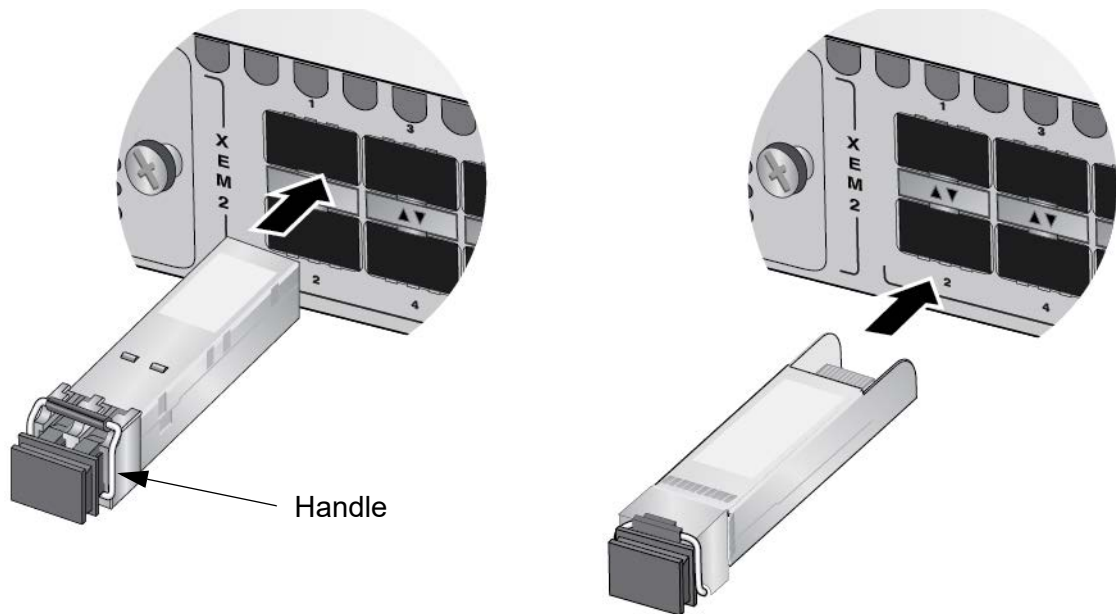

Figure 132. Installing an SFP or SFP+ Transceiver
- ❑ Base ports 1 to 24 and AT-XEM2-8XSTm and AT-XEM2-12XS Line Cards - To install a transceiver in an odd numbered port, position it with its handle on top. To install a transceiver in an even numbered port, position it with its handle on the bottom. Refer to Figure 132 on page 241.